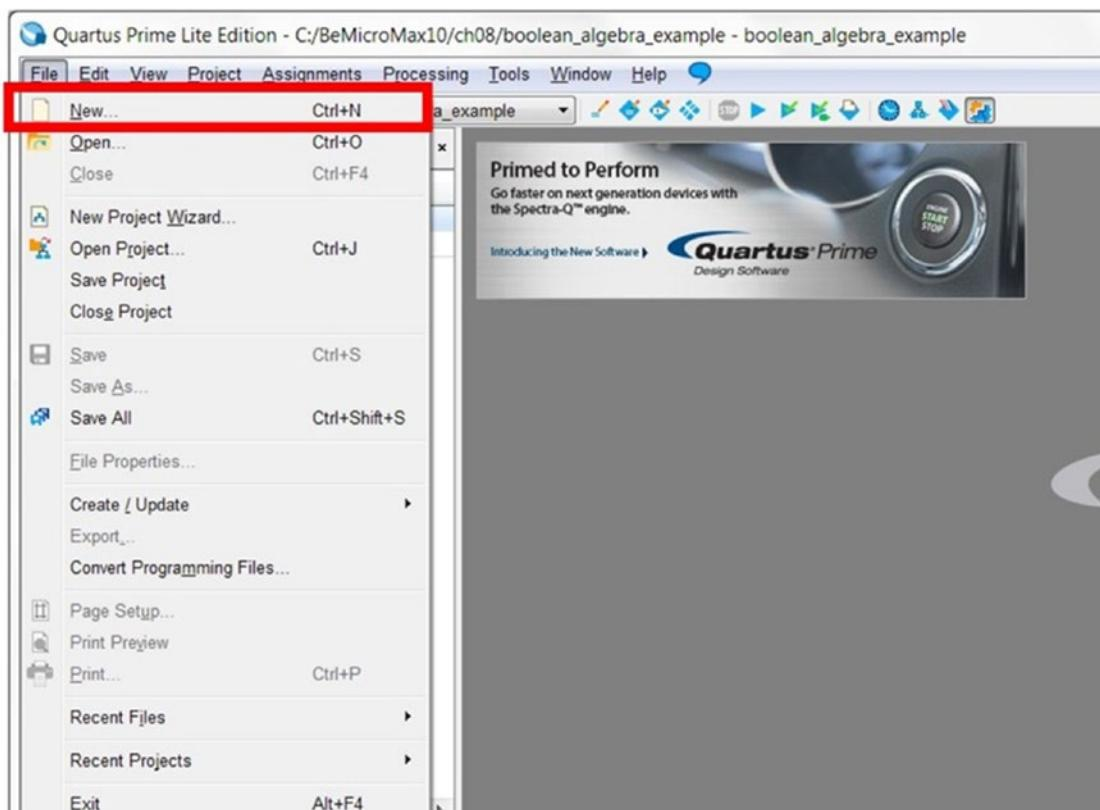

Figure 8-3. Add New file to project
2. Click **File > New...** from the Quartus Prime menu to add a new VHDL file (Figure 8-3).